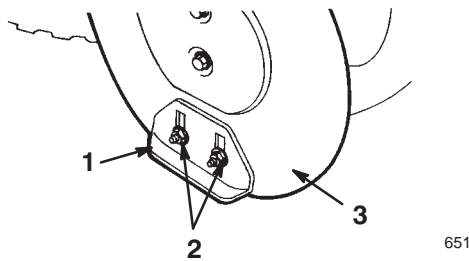

Figure 22
- Loosen the 4 flange nuts that secure both skids to the auger side plates (Fig. 22) until the skids slide up and down easily.
- Tighten the 4 flange nuts that secure both skids to the auger side plates (Fig. 22).